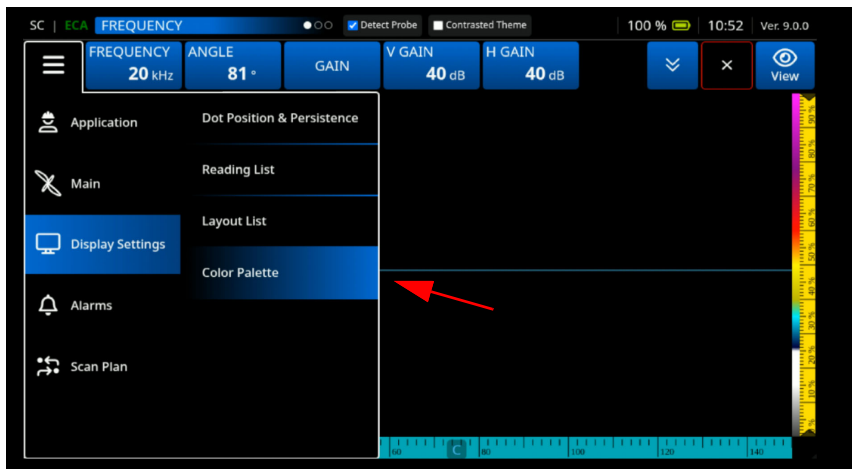

Figure 4-42 Select Color Palette
6. Select **Color Palette** (See Figure 4-42 on page 151).